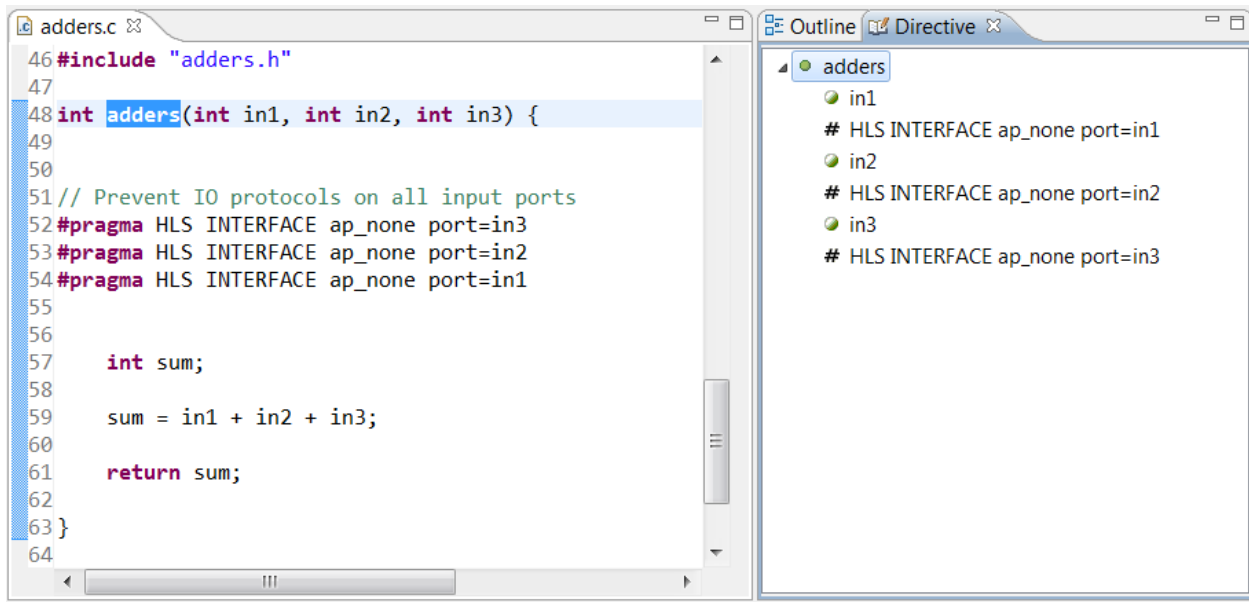

Figure 60: Top-level Function Selected
4. Activate the Directives tab and select the top-level function, as shown in Figure 60.